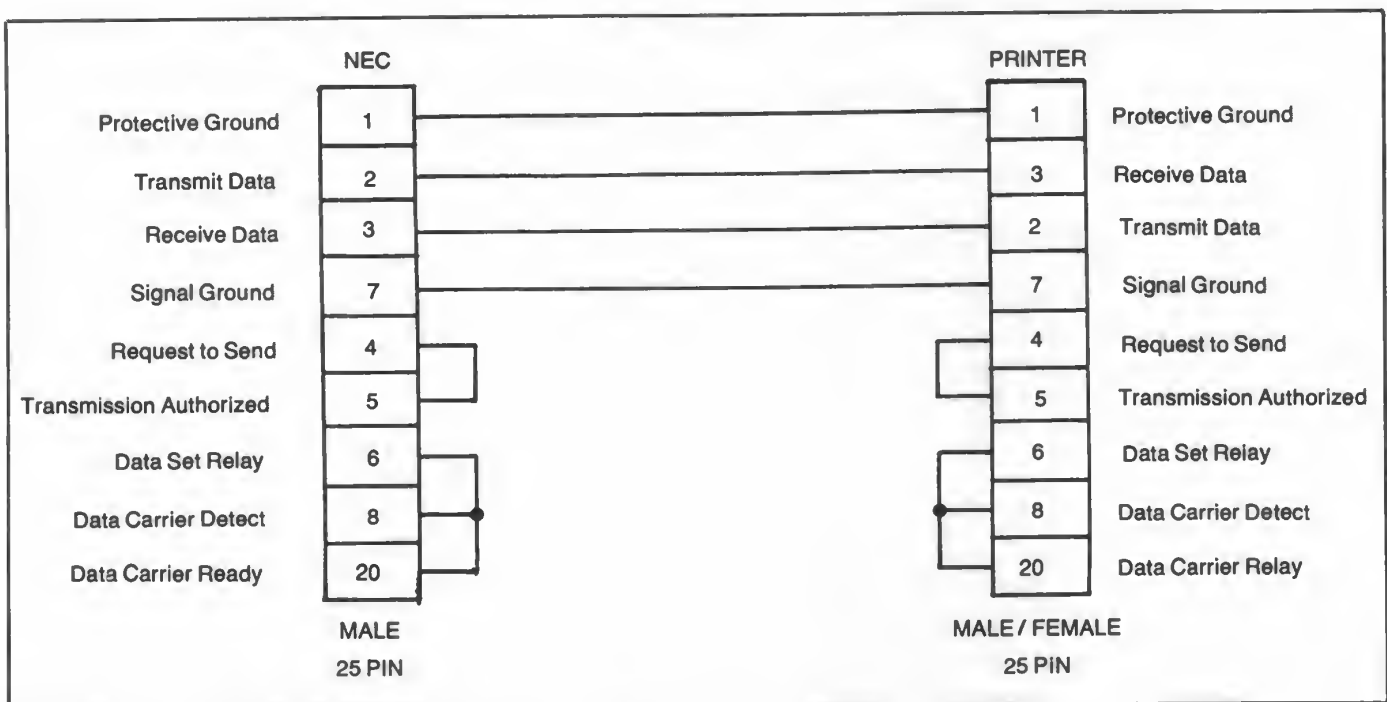

Fig.3-6 Typical RS-232C Serial Printer Cable Connections
1. Obtain a cable that properly mates the 8201A to your printer. The NEC PC-8201A requires a male 25 pin plug at its end. Your printer may be of either gender. Other connections may be required, but be certain that pin 2 of one end is wired to pin 3 of the other and vice-versa. These are the all important transmit/receive lines and must be crossed in this manner. Check your printer manual for other pin connections. One typical configuration is illustrated in Figure 3-6.